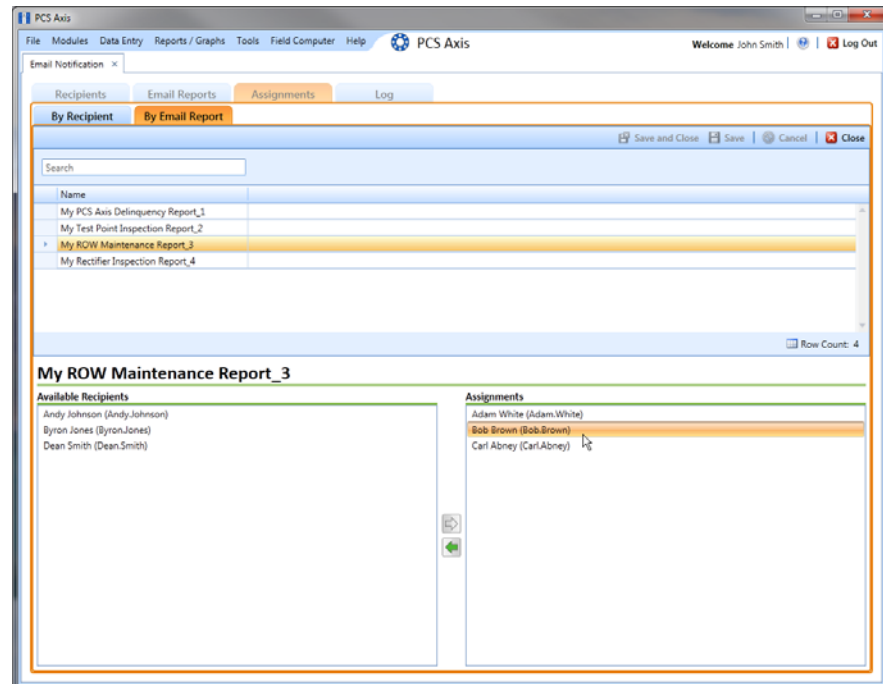

Figure 11-19. Email Notification Assignments By Email Report
- 2)** Double-click a recipient name in the *Assignments* pane to move it to the *Available Recipients* pane. Then click  **Save**. The email report is sent only to those recipients listed in the *Assignments* pane (Figure 11-19).